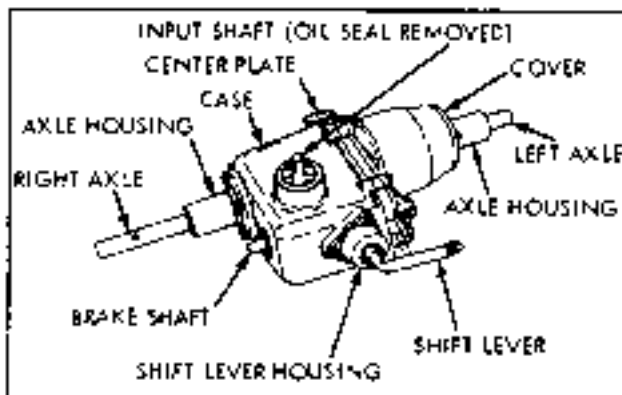

Figure 15
1. Clean the outside surface of the trans-axle, away from the area where dis-assembly will take place. (Position shift lever in neutral position to help dis-assembly. See Figure 15. Remove screws (3) holding shift lever and shift lever housing. Remove shift lever housing. Drain oil through the shift lever opening (for service of shift lever assembly, refer to Page 18). Remove all keys from keyways, remove all burrs and dirt from shafts. On hardened shafts, use a stone to remove burrs. All seals should be replaced whenever a shaft is pulled through a seal. Always use a new gasket whenever the gasket surfaces have been separated.